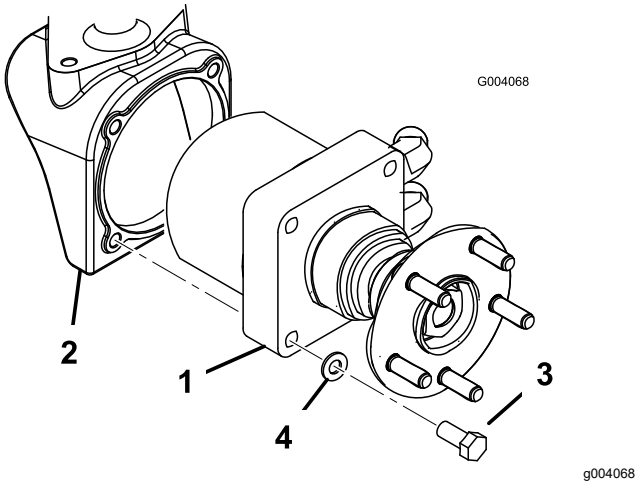

Figure 3
- Mount the respective wheel motor assembly to each wheel housing with 4 bolts (1/2 x 2-1/4 inch) and lock washers (1/2 inch) (Figure 3). Torque the bolts to 95 to 108 N·m (70 to 80 ft-lb).